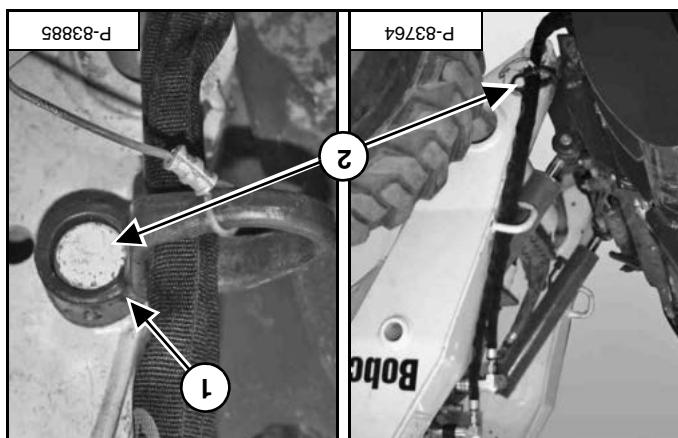

Figure 50
Insert lock pin (item 1) through the removable hose guide and mounting post and latch eyellet (item 2) onto the lock pin (item 3) [Figure 50].